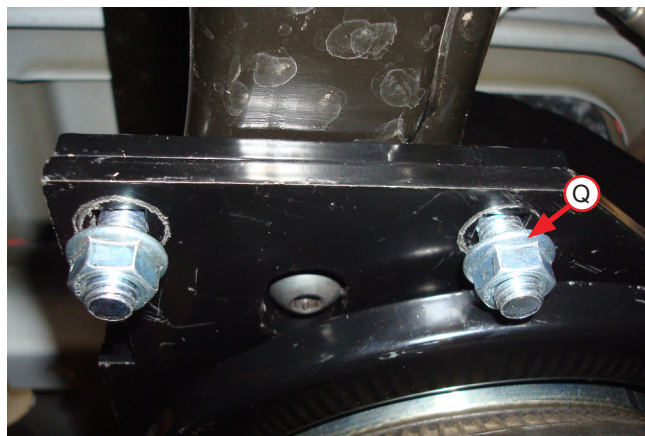

Fig. 18
4. Before proceeding, ensure the 90-degree fittings each point inboard toward the center of the vehicle. While raising the axle or lowering the body of the vehicle, align the previously installed upper frame bracket carriage bolts with the air spring bracket holes so the carriage bolts protrude through the air spring bracket. Cap the carriage bolts with the 3/8" serrated flange lock nuts (Q) (Fig. 18). Snug the bolts down first, then torque to 31 lb.-ft. (42Nm). Finish raising the axle or lowering the body and remove safety stands.